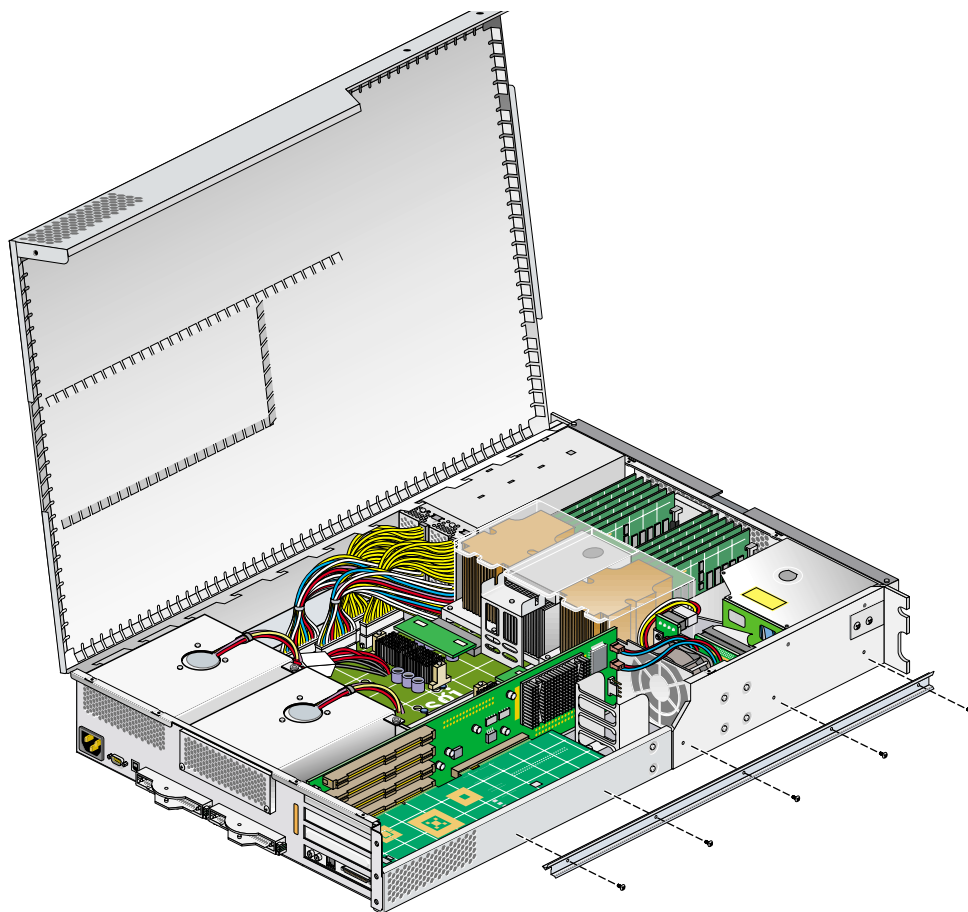

Figure 3-11 Removing the Chassis Rail
9. If you are removing a card from one of the two lowermost card slots and your system uses optional slide rails, remove the chassis rail, by unscrewing the five Phillips screws as shown in Figure 3-11. (If you are not removing a PCI/PCI-X card from one of the two lowermost card slots, proceed to step 9.)
8. When removing and replacing a graphics card, you may need to remove an optional chassis rail by unscrewing the five Phillips screws, (an example is shown in Figure 3-11).